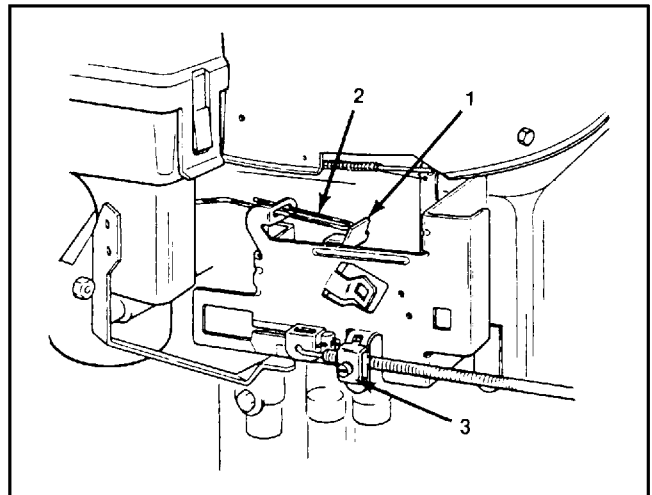

Figure 18
2. The throttle lever should be just touching the choke link (Fig. 18); if they are not in this position, an adjustment is necessary:
- B. Loosen the throttle cable clamp screw (Fig. 18) and move the control cable casing and wire until the throttle lever touches the choke link.